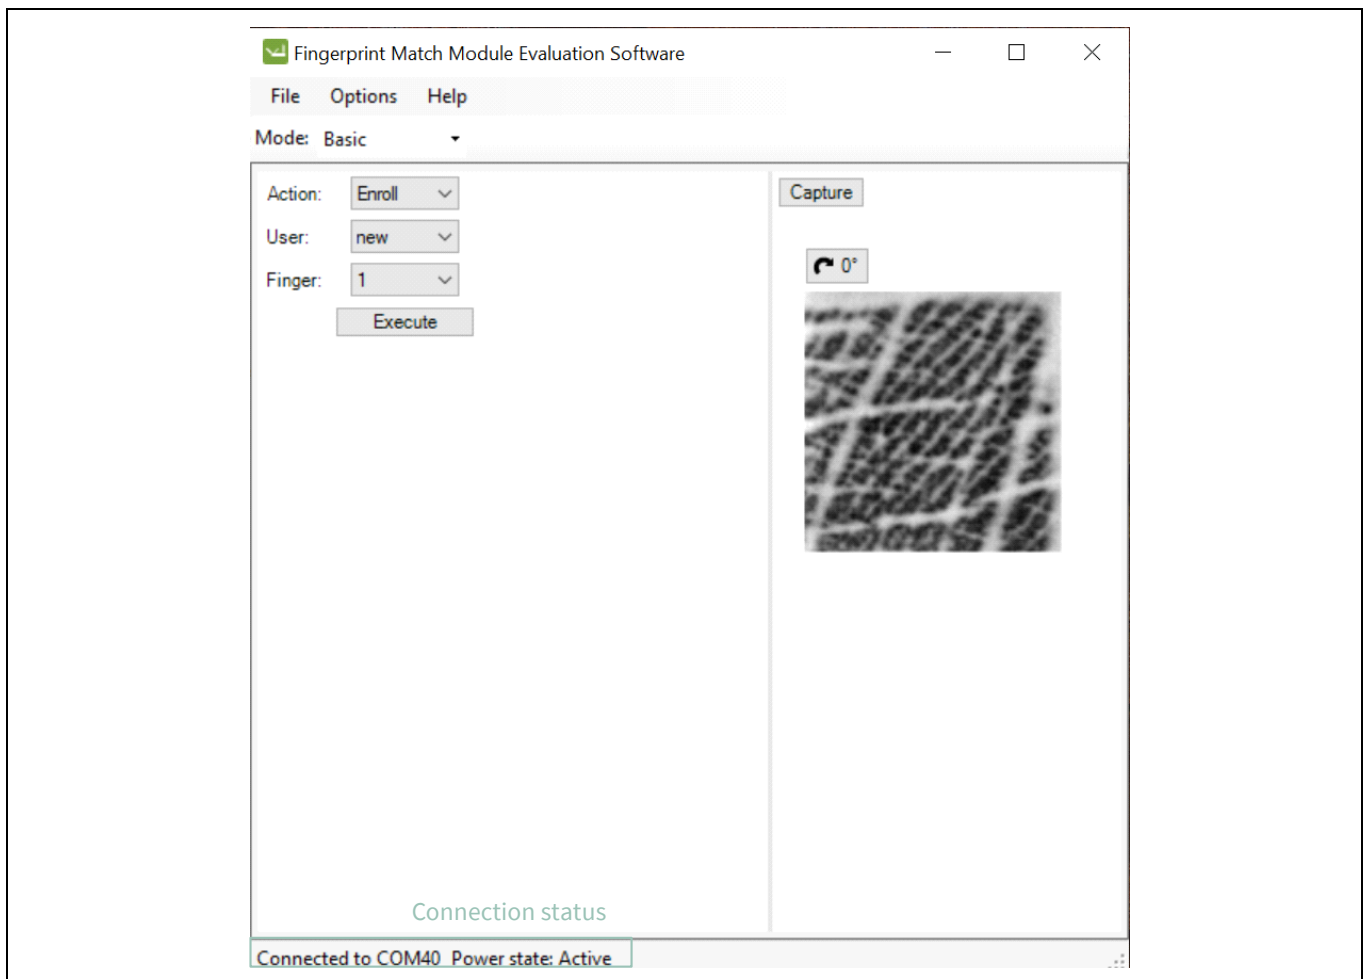

Figure 4-1. FPMM SW 1.0 GUI start screen
- Launch the FPMM SW 1.0 from the Windows Start menu and displays the window shown in **Figure 4-1**. Follow instructions on how to use the FPMM software by referring to the FPMM switch user guide.